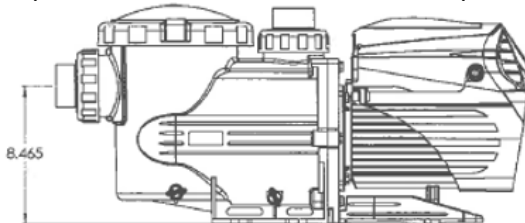

Figure 3A – pump shown without adjustable base
2. Select the correct side of the pump base for desired pump inlet elevation, without base the pump inlet centerline (fig 3a) is 8.465"inch. The base additionally allows for a 9.125" or a 10.75" inch pump inlet centerline to ground clearance, which allows easy retrofits from popular competitor pump products.